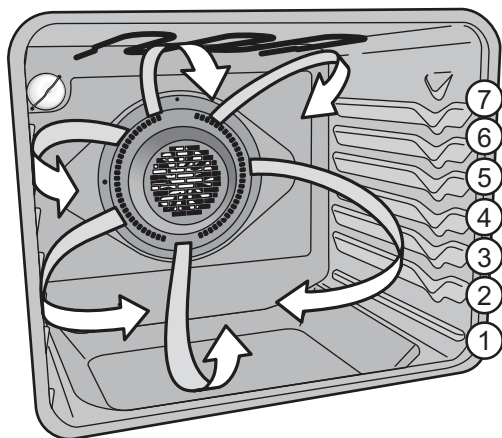

Figure 3: Air movement using convection
- For best results when using a single oven rack, place rack in position 4 or 5 (See Figure 3). When using two oven racks, place in positions 3 and 6. When using three oven racks, place in positions 2, 4, and 6 (use offset rack only in position 7).